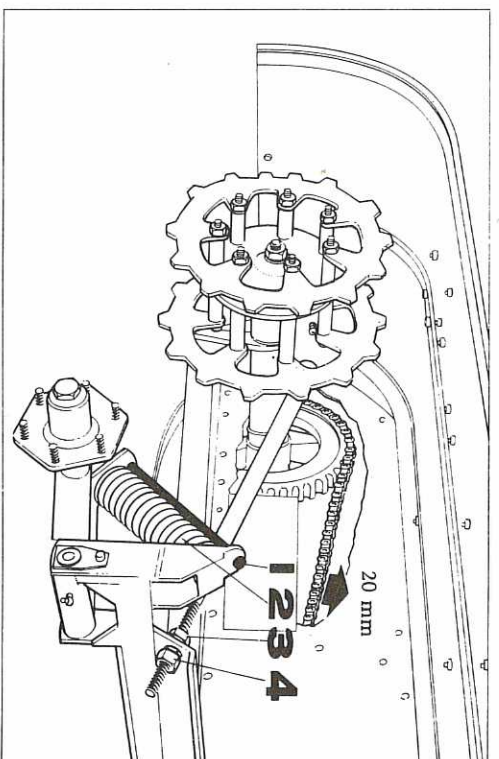

Fig. 16
1. Mount the black tightening bolt 1, which is placed in the tool box, in the holes over the spring 2 behind the front wheel, fig. 16.
Check the tension of the drive chains now and then, and after every 50 hours running. If the chains are insufficiently tensioned this can result in jerky running, particularly when travelling downhill. The chain tension should be checked on the slack part of the chain. The upper part of one of the chains can be tightened while that of the other chain is slack. This depends on the direction in which the vehicle has been turned immediately before stopping. When correctly tensioned, it should be possible to lift the middle of the chain about 2 cm (3/4"). The chains are tensioned with the nuts 3, fig. 16, on the either side of the vehicle body. Note that the vehicle should be driven straight forward at least 10 metres (33 ft.) on level ground before the chain tension is adjusted.